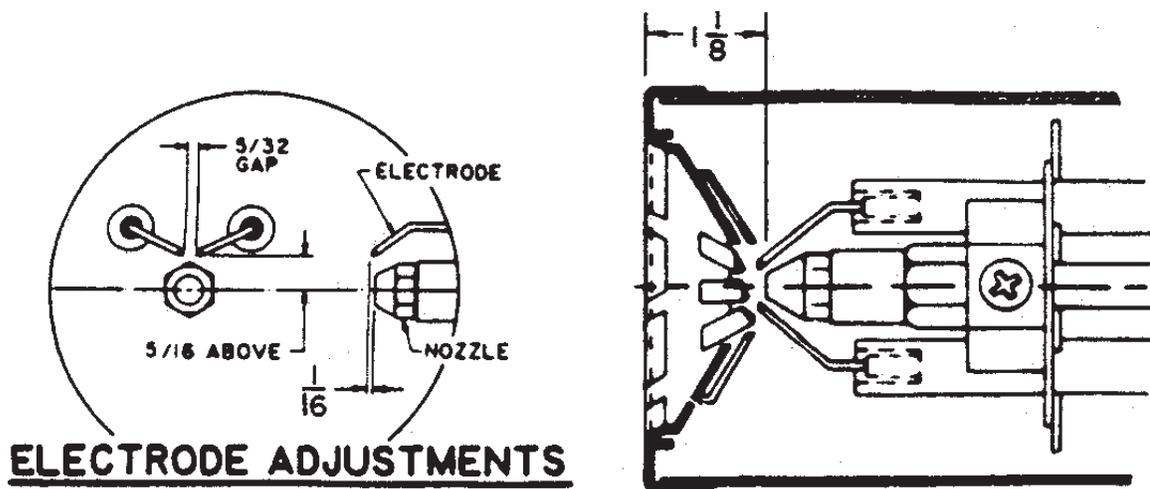

Figure 7-2: Electrode / Head Setting
- b. Verify nozzle size, head size, gun setting, and positioning of electrodes. This information is shown in Figure 7-2, and Beckett Burner Specifications, Table 6. Replace Gun Assembly.